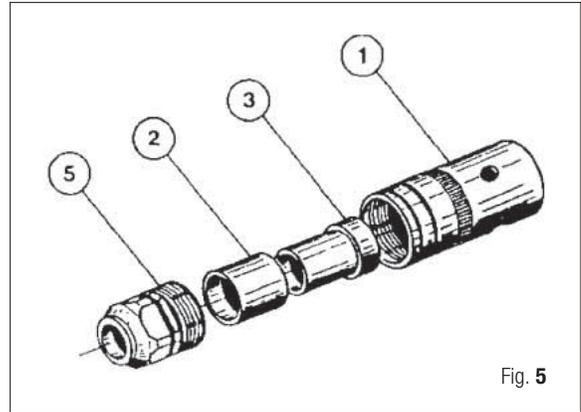
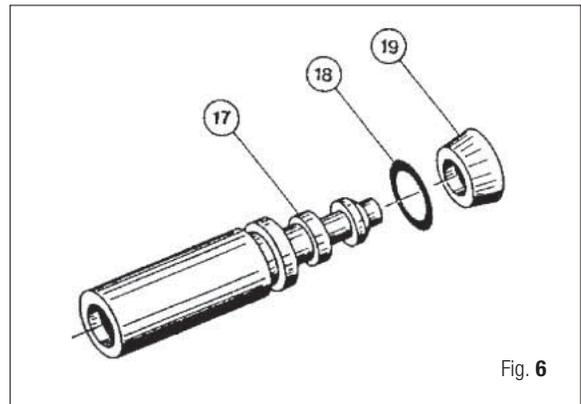

Fig. 5
Fig. 6
6. Clamp the head in the 24 mm. jaws (A-1) (Fig. 3) and remove head tip (5) from head body (1) with a 19 mm. wrench (Fig. 5).
7. Remove shock absorber (2) and insert (3) from head body.
8. Remove shock absorber (2) from shock absorber insert (3).
9. Remove piston (17-18-19) from the barrel. If necessary a shaft may be used to aid in the removal of the piston (Fig.6).
10. Remove oil wiper (19) and O-ring (18) from piston (Fig. 6).
11. Using a rotating motion, remove the nose cone (4) and O-ring (20).
13. Using a rotating motion remove the tank (25), using clamping jaws (A-3) if needed.